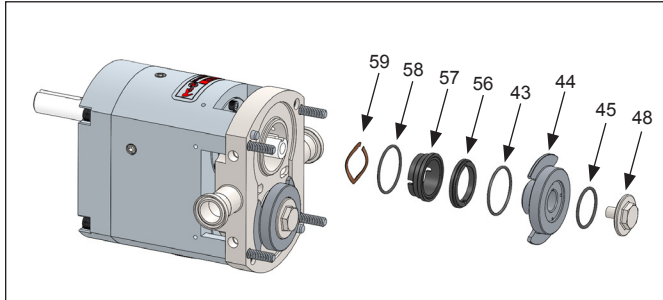

Figure 25. Single Mechanical Exploded View
3. Remove the rotors by orientating them perpendicular to each other and then pulling them out. It is important to be cautious with the rotors so that they are not damaged. If rotors are difficult to remove, use a nylon or wood lever to pry them out without damaging the body or the rotors. If necessary, remove the body hold down screws and tap the body forward to loosen the rotors. Use (Figure 25) to ensure that all parts are removed.